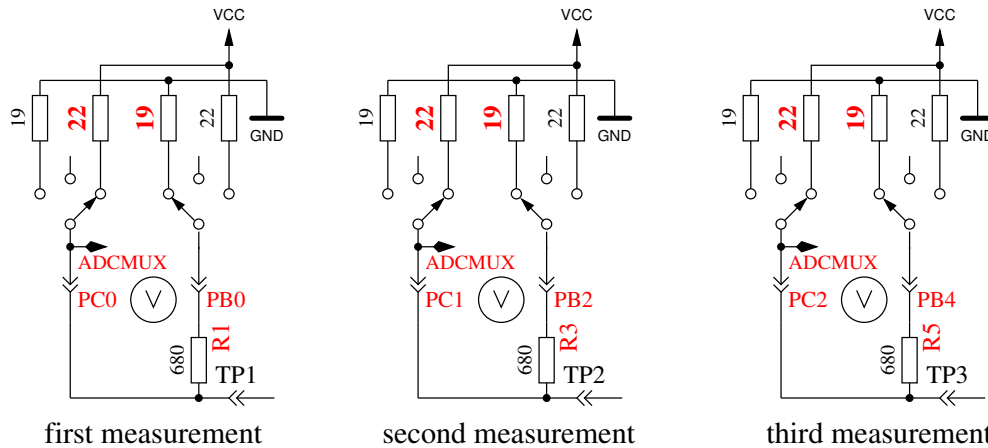

Figure 5.48: Measurement of internal resistance of Port C switched to VCC
9. **Measuring of internal resistance of port outputs switched to the VCC (+)signal.** The needed current is generated with to GND connected 680Ω resistors . It are the same measurements as those in test 8 to the other side as you can see in Figure 5.48. With the following steps the resistance is computed: To get the current, the following is computed: $(VCC - (resultoftest8) - (resultoftest9))/680$. To get both resistor values, the voltage (result of test 8 or 9) is divided by this current. The result for this test will then be notified in row 1 with the text "RI_Hi=", the resistance value (Ω) to the GND side is displayed in row 2 with the text "RI_Lo=". Beginning with version 1.06k of the software, the port output resistance